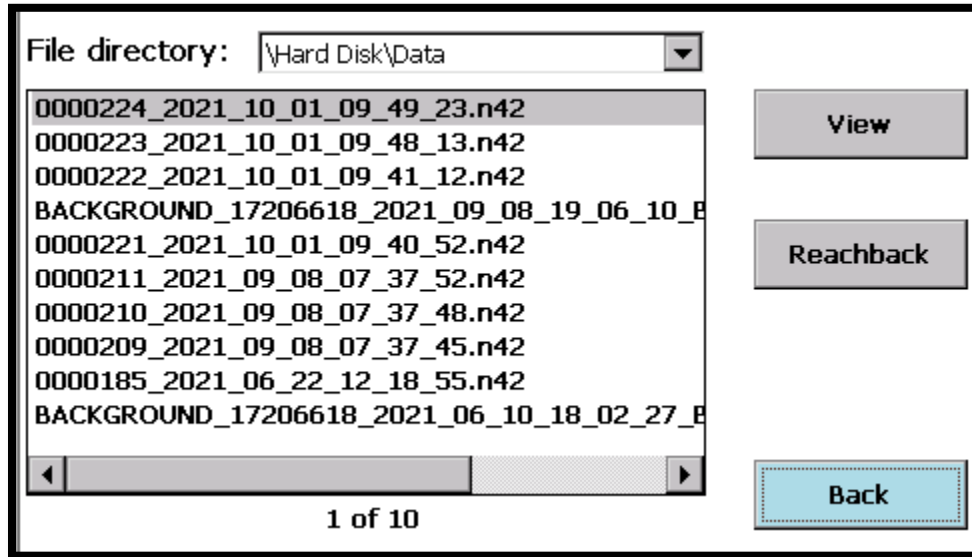

Figure 88. Recall Screen
**NOTE** The Save BKG in N42 check box is enabled by default. If it is not desired to send the background data with the N42 file sent by Reachback, uncheck this box. If the box is unchecked, a background data file is automatically saved separately in the Recall folder after the first time an identification is saved. This background file can be sent to Reachback separately. This background file name will begin with BACKGROUND (see Figure 88).
The first Recall screen (see Figure 88) simply lists all data that resides on the machine in chronological order with newest data files at the top. The file directory can be selected at the top of the screen, allowing the user to change to any Detective X file folder where data may be stored. Remember that file names are simply the encoded time/date when the file was saved. When searching for a particular data set or group of data sets, the initial Recall screen will be used to scroll through lots of data files quickly. The operator will then select a data file with a time/date in the neighborhood of file(s) of interest and then tap the **View** button.
Clicking the **Back** button returns to the Recall files screen (Figure 88) and sends all of the files that are cued for Reachback.